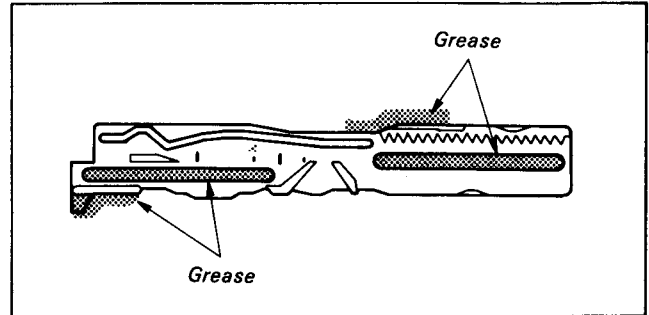

Fig. 8-42.
- 1) Grease the slider. (See Fig. 8-42.)